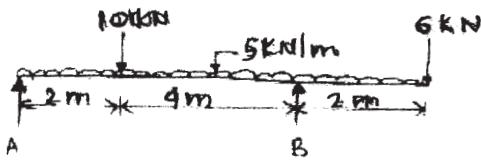

Fig.5
**Q6) a)** Find support reaction for beam given in fig. 5.